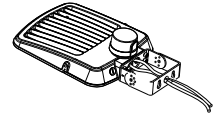

Figure 12
- Step 2: Install the bracket on the fixture. (Figure 12)